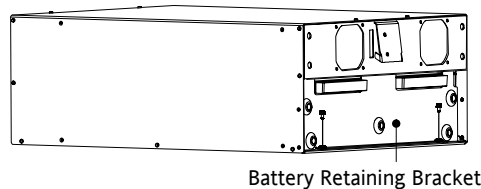

Figure 2. Securing the Battery Trays
3. Secure the battery trays to the chassis with the battery retaining bracket and screws provided in the accessory kit (see Figure 2).